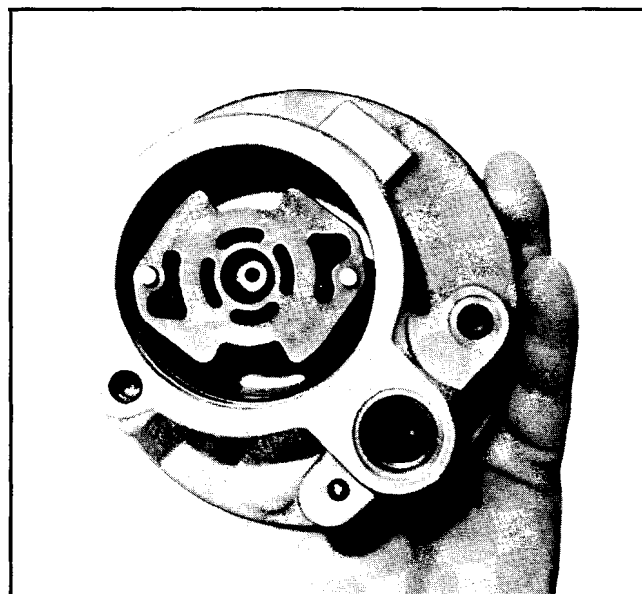

Fig. 9-119 Thrust Plate Installed
2. Install thrust plate on dowel pins with ported face to rear of pump housing (Fig. 9-119).